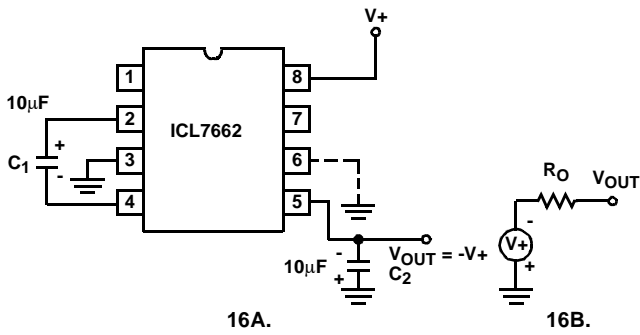

FIGURE 16. SIMPLE NEGATIVE CONVERTER AND ITS OUTPUT EQUIVALENT
The majority of applications will undoubtedly utilize the ICL7662 for generation of negative supply voltages. Figure 16 shows typical connections to provide a negative supply where a positive supply of +4.5V to 20.0V is available. Keep in mind that pin 6 (LV) is tied to the supply negative (GND) for supply voltages below 10V.
ESR also affects the ripple voltage seen at the output. The total ripple is determined by 2V, A and B, as shown in Figure 16. Segment A is the voltage drop across the ESR of C2 at the instant it goes from being charged by C1 (current flowing into C2) to being discharged through the load (current flowing out of C2). The magnitude of this current change is 2 x IOUT, hence the total drop is 2 x IOUT x ESR C2 V. Segment B is the voltage change across C2 during time t2, the half of the cycle when C2 supplies current the load. The drop at B is IOUT x t2/C2 V. The peak-to-peak ripple voltage is the sum of these voltage drops:
Figure 23 combines the functions shown in Figure 16 and Figure 22 to provide negative voltage conversion and positive voltage doubling simultaneously. This approach would be, for example, suitable for generating +9V and -5V from an existing +5V supply. In this instance capacitors C1 and C3 perform the pump and reservoir functions respectively for the generation of the negative voltage, while capacitors C2 and C4 are pump and reservoir respectively for the doubled positive voltage. There is a penalty in this configuration which combines both functions, however, in that the source impedances of the generated supplies will be somewhat higher due to the finite impedance of the common charge pump driver at pin 2 of the device.